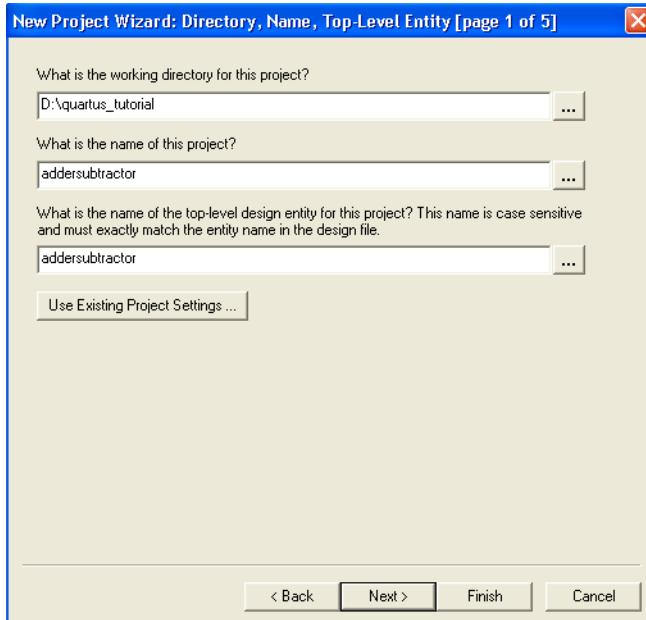
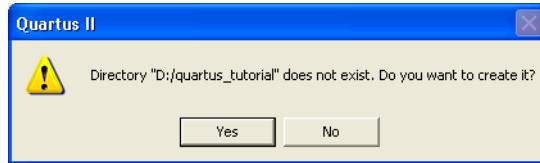
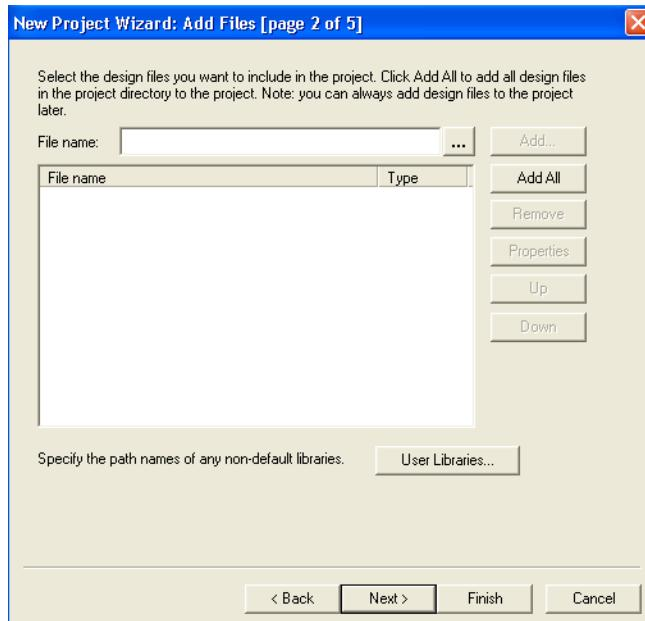

Figure 4: Creation of a new project.
Figure 5: The Quartus II software can create a new directory for the project.
Figure 6: The wizard can include user-specified design files.
1. Select File > New Project Wizard to reach a window that indicates the capability of this wizard. Press Next to get the window shown in Figure 4.
2. Set the working directory to be *quartus_tutorial*; of course, you can use a directory name of your choice. The project must have a name, which is usually the same as the top-level design entity that will be included in the project. Choose *addersubtractor* as the name for both the project and the top-level entity, as shown in Figure 4. Press Next. Since we have not yet created the directory *quartus_tutorial*, the Quartus II software displays the pop-up box in Figure 5 asking if it should create the desired directory. Click Yes, which leads to the window in Figure 6.